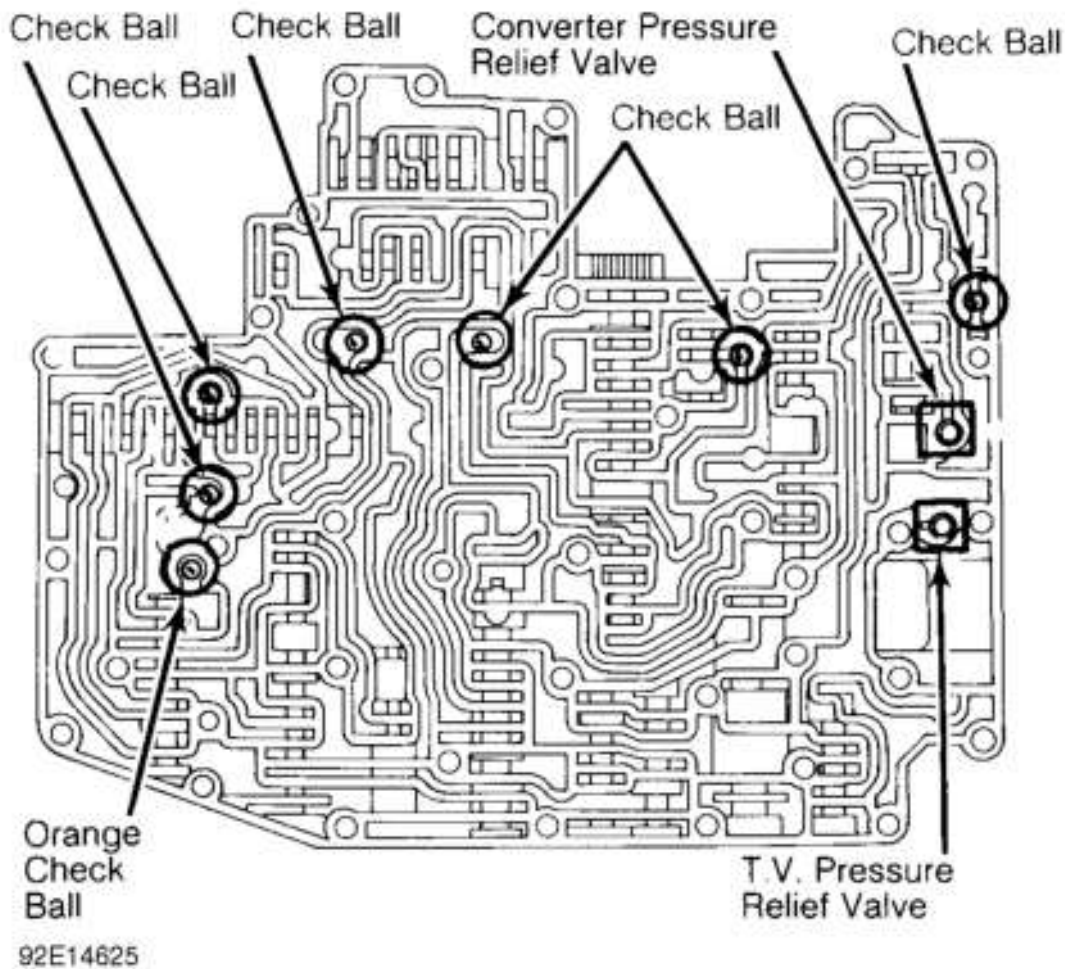
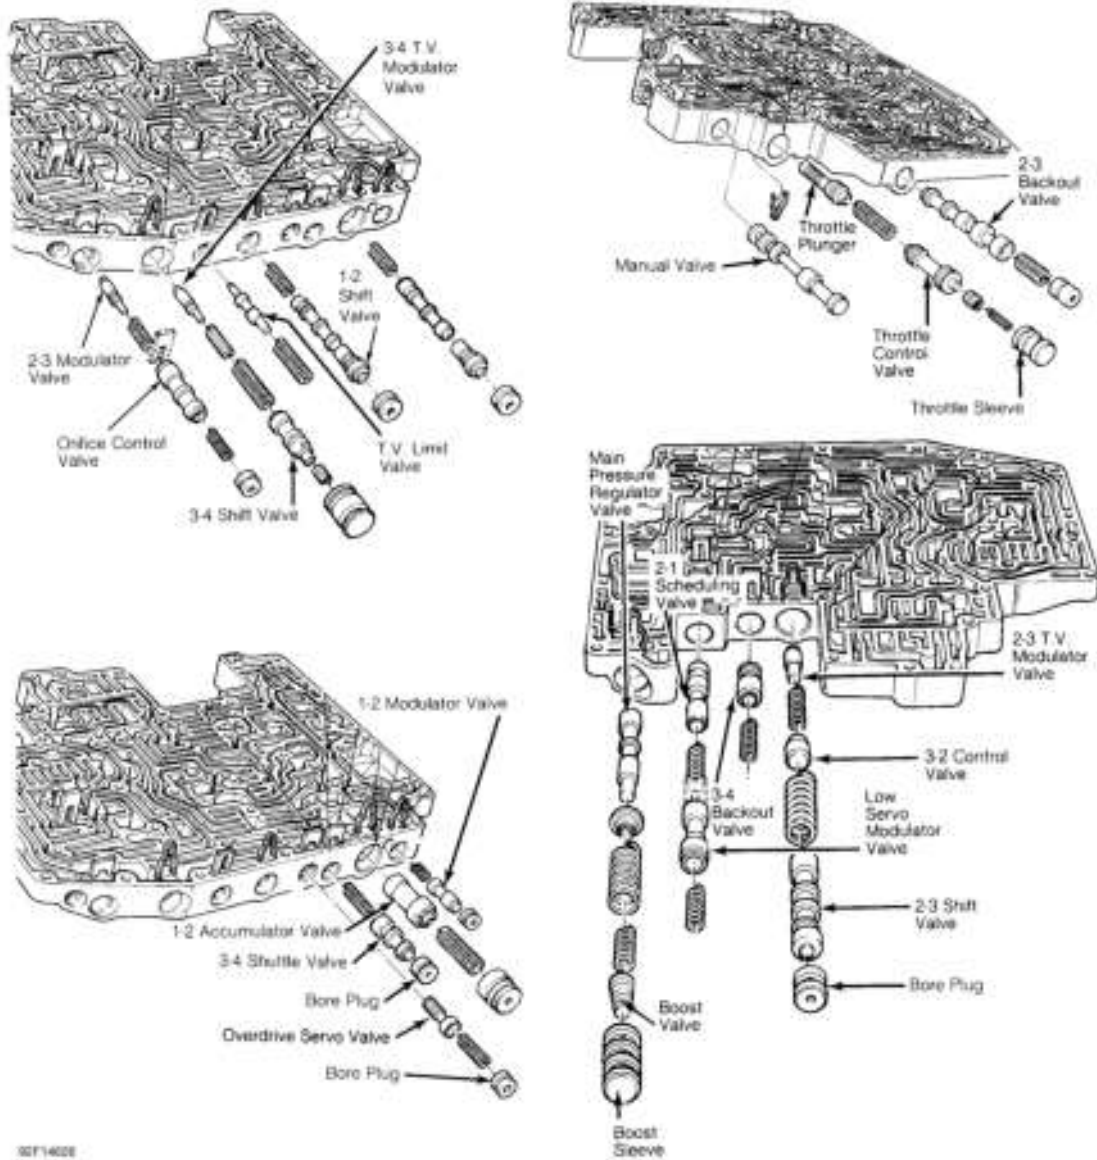

Fig. 42: Locating Check Balls in Valve Body
Fig. 43: Exploded Views of Valve Body Components
2. Remove 2 relief valves and 7 check balls from valve body. Note location of Orange check ball. Orange check ball is **NOT** interchangeable with 6 Black check balls. See Fig. 42 .
3. Install valve body check balls. See **Fig. 42** . Ensure Orange check ball is correctly installed. This check ball is larger than others and is not interchangeable. Install pressure relief valves and springs. See **Fig. 43** .
5. Using a NEW separator plate gasket, slide plate and gasket over alignment pins. Position 3 reinforcement plates and loosely install retaining bolts. See **Fig. 43** .